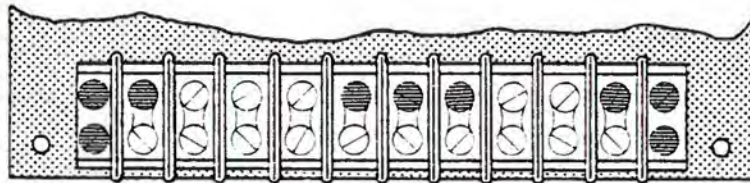

Figure 5-47b
2. Remove five screws from the top row of the terminal block (marked -18, AC, AC, GRD, +18). These are illustrated in Figure 5-47b.